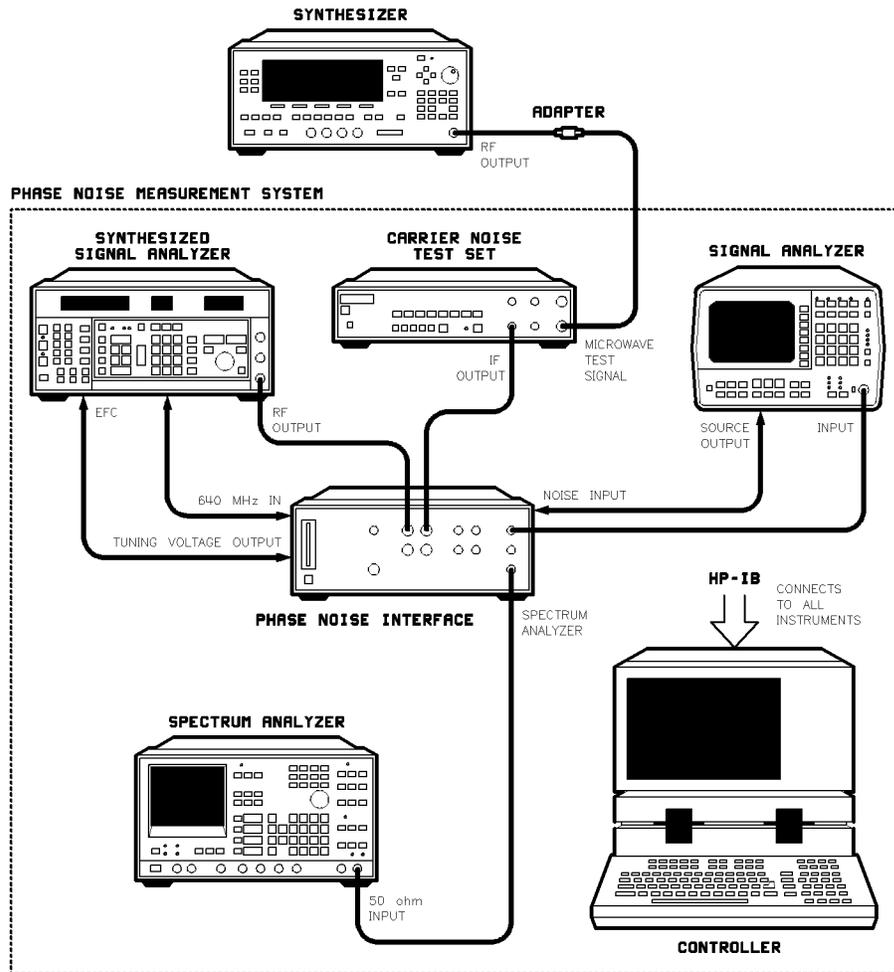

Figure 2-13. Single Sideband Phase Noise Test Setup
1. Connect the equipment as shown in Figure 2-13. Preset the equipment and let them warm up for at least one hour.